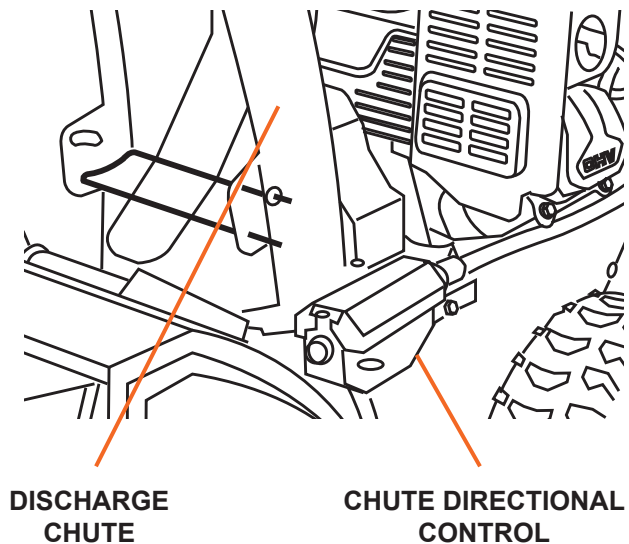

Figure 8
2. Attach the chute crank bracket aligning the chute notches with the spiral end of the chute directional control assembly (see Figure 8). Lubricate both ends of the chute directional control crank with petroleum jelly, paraffin wax, or light machine oil.